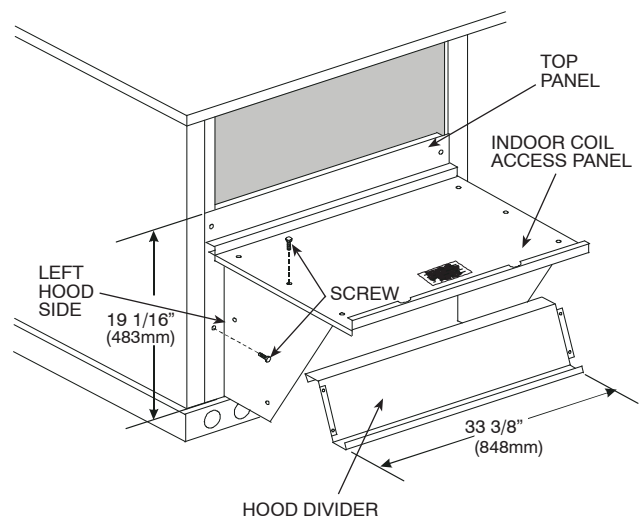
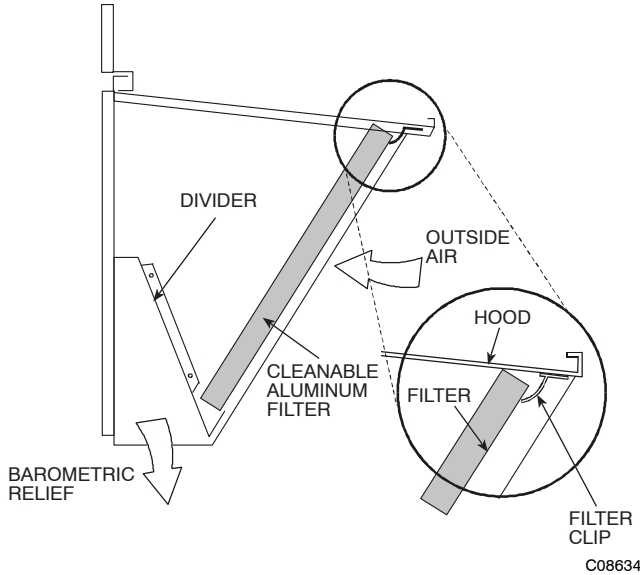

Fig. 11 - Economizer Hood Construction
Fig. 12 - Economizer Filter Installation
2. Swing out indoor coil access panel and insert the hood sides under the panel (hood top). Use the screws provided to attach the hood sides to the hood top. Use screws provided to attach the hood sides to the unit. See Fig. 11.
4. Insert the hood divider between the hood sides. See Fig. 11 and Fig. 12. Secure hood divider with 2 screws on each hood side. The hood divider is also used as the bottom filter rack for the aluminum filter.
5. Open the filter clips which are located underneath the hood top. Insert the aluminum filter into the bottom filter rack (hood divider). Push the filter into position past the open filter clips. Close the filter clips to lock the filter into place. See Fig. 12.